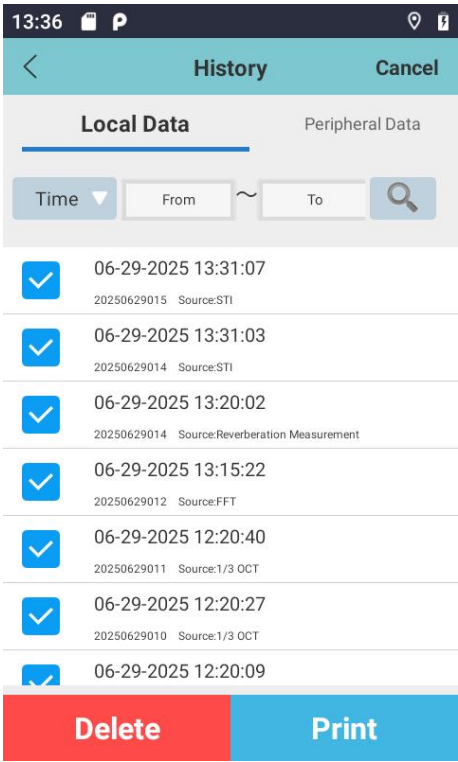

Figure 6.91
- a. Tap the Select All icon in the upper right corner (see Figure 6.91), then tap Delete. Confirm as prompted.